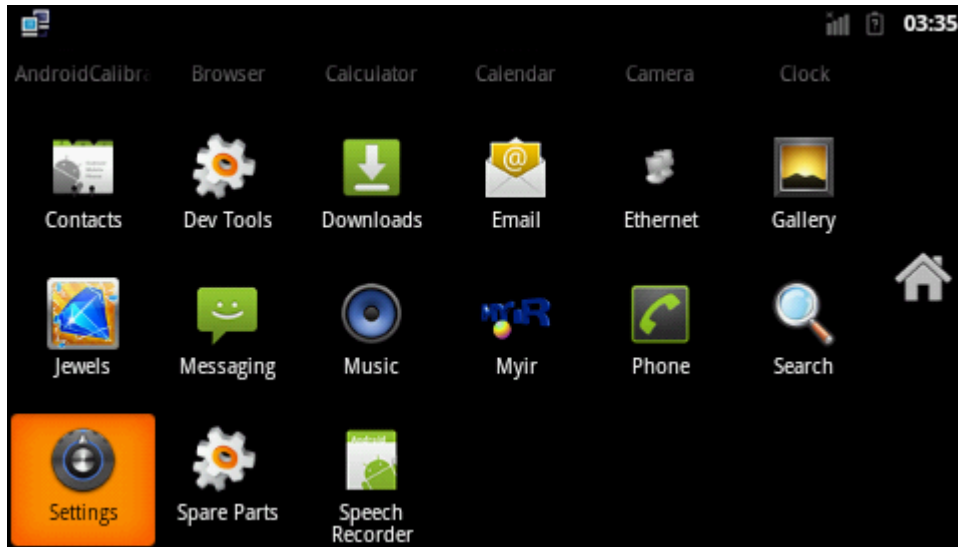

Figure 5-27
(1) Find and click "Settings". Refer to figure 5-27: